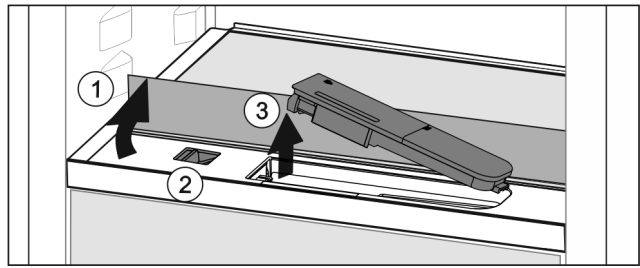

Fig. 145
- ▶ Lift the glass panel and fold towards the rear until it clicks into place Fig. 145 (1).
- ▶ Slide the slider Fig. 145 (2) to the left.
- ▶ Remove the water tank Fig. 145 (3).